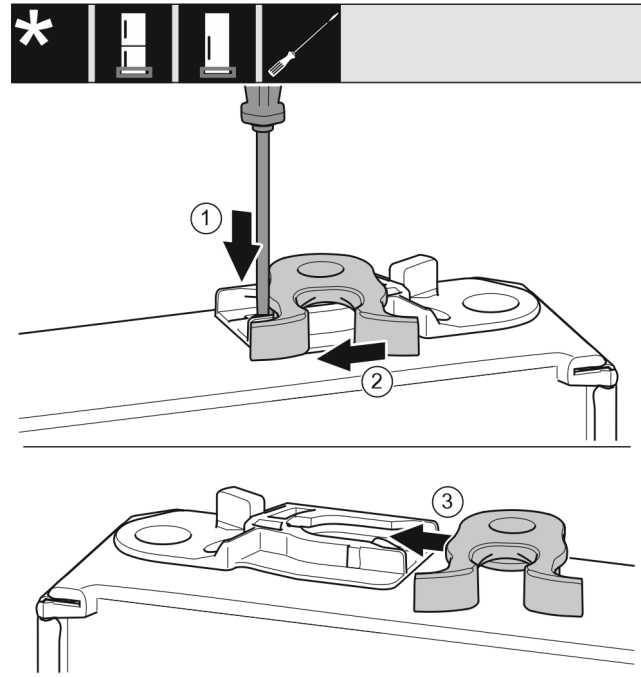

Fig. 19
- Use a slotted screwdriver to push the tab *Fig. 19 (1)* downward.
- Pull the closing hook *Fig. 19 (2)* out of the guide on the other side.
- Push the closing hook *Fig. 19 (3)* to the other side in the guide.